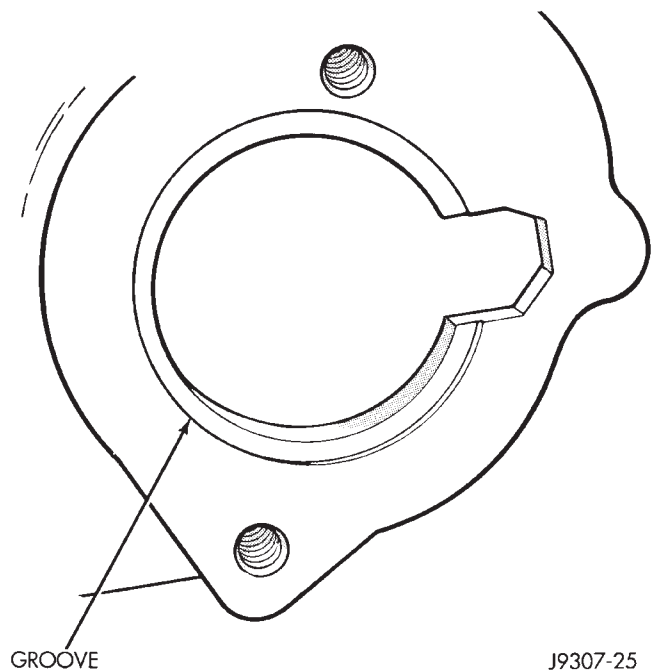

Fig. 37 Thermostat Recess—4.0L Engine
- (1) Install the replacement thermostat so that the pellet, which is encircled by a coil spring, faces the engine. All thermostats are marked on the outer flange to indicate the proper installed position.
- (a) Observe the recess groove in the engine cylinder head (Fig. 37).
- (2) Install replacement gasket and thermostat housing.